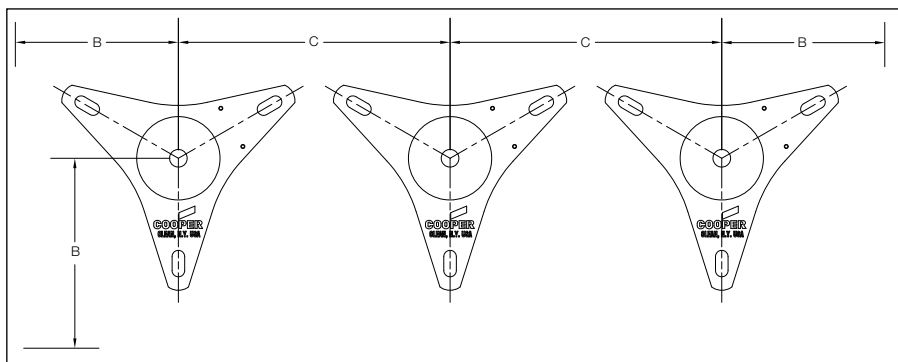
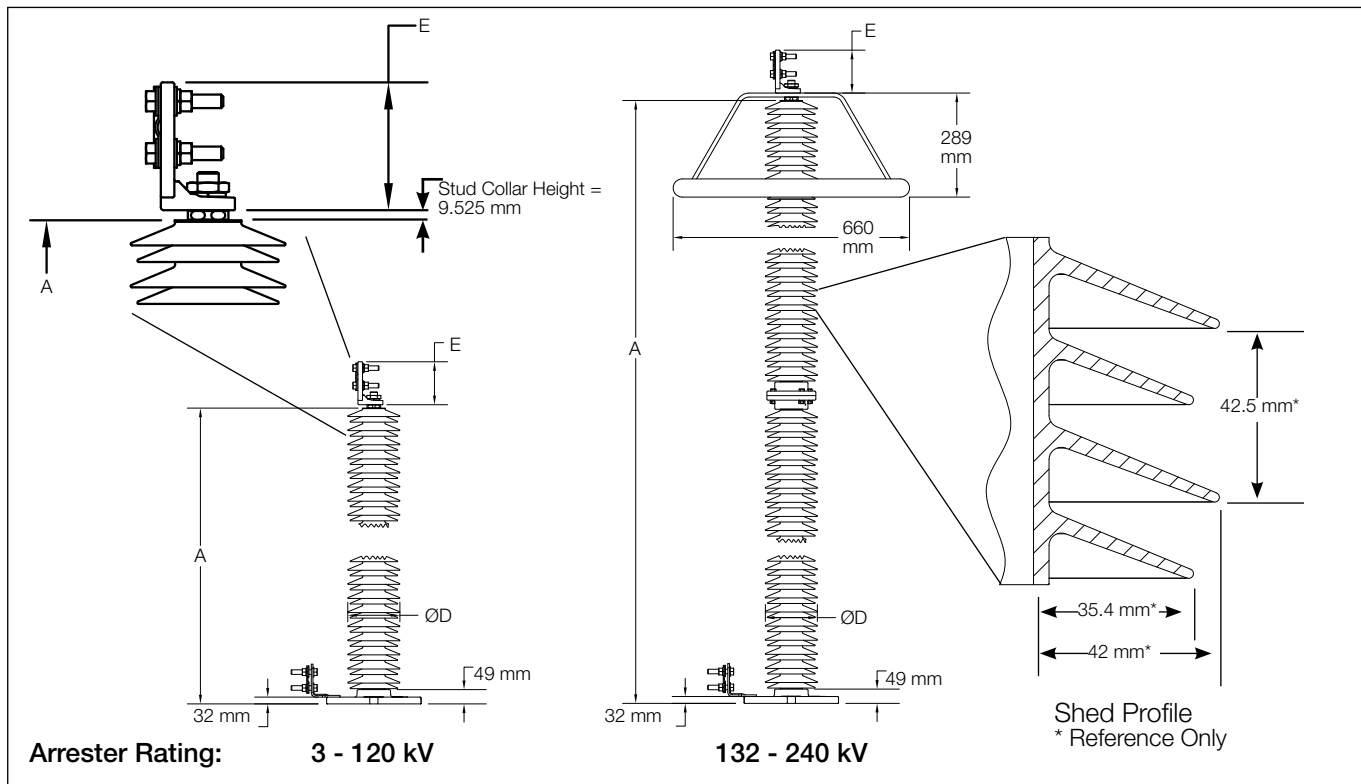

Figure 4.
Figure 5.
Figure 4 illustrates an in-line mounting arrangement; the applicable values of "B" and "C" may be found in Table 5. Line and Earth terminal details are shown on pages 10-11, options 14 and 15. Figure 5 shows an outline drawing of the standard U4 UltraSIL Polymer-Housed VariSTAR Class 4 Arrester. The values for dimensions "A" and "D" for all ratings are listed in Table 5.
1. Refer to Figure 4 for illustrations of dimensions B and C and Figure 5 for dimensions A and D.
Outlines in Figure 5 and data from Table 5 represent standard arrester catalog numbers. Outline dimensions will vary when optional housing codes are selected. Consult factory for more information.
Note: Refer to Figure 5 for illustration of dimension E.